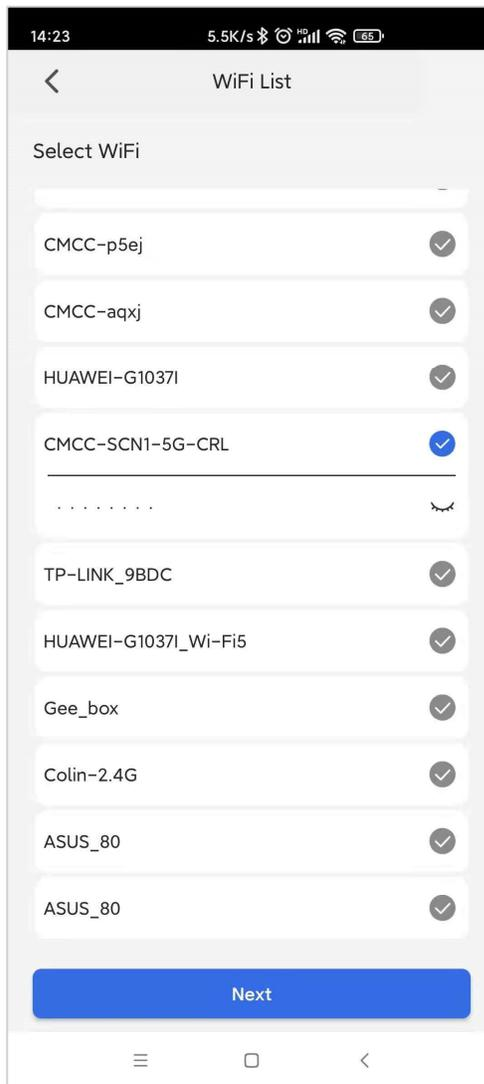

Figure 14: the Wi-Fi List Interface
Wi-Fi Access Point (AP) hot spot will list after scanning. User can choose Wi-Fi AP, and then input Wi-Fi password. Click “Next” button and the APP will transmit Wi-Fi configuration parameters to devices by BLE showing in figure 14.